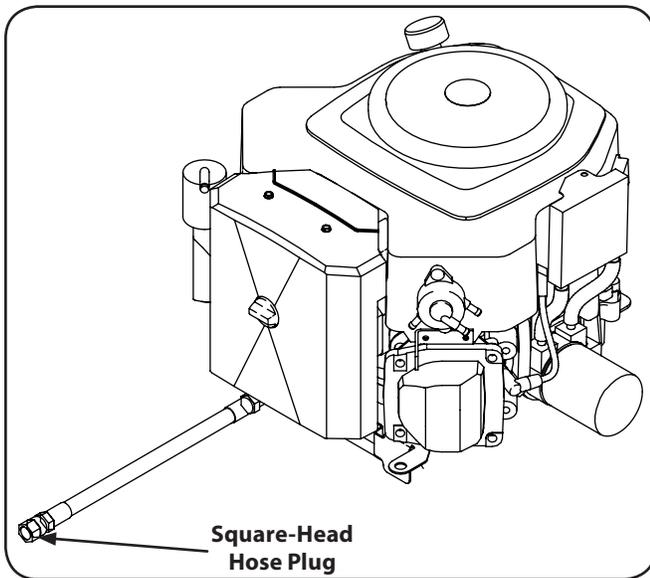

Figure 6-1
4. While holding the free end of the oil drain hose over the oil collection container, unscrew the square-head hose plug from the end of the hose. See Fig. 6-1. Drain the engine oil into the collection container.